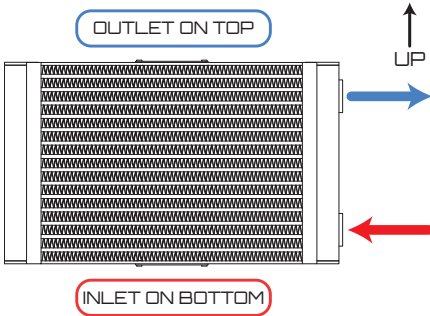

Figure 1 - Horizontal Plumbing
- The preferred plumbing orientations are shown in Figures 1 and 2.